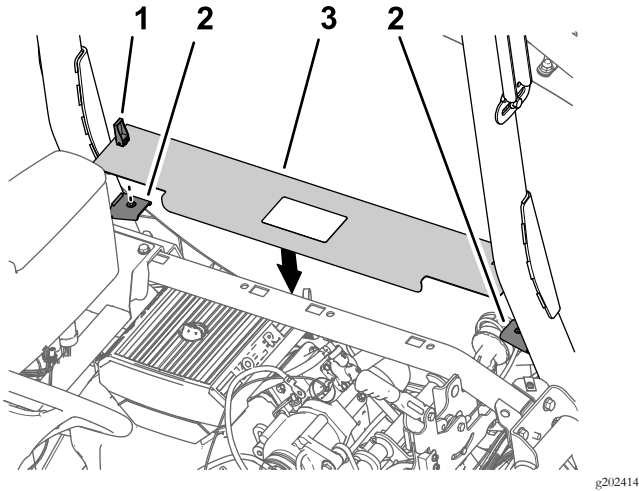

Figure 219
1. Align the latches of the engine access panel with the bushings in the panel-support brackets on the roll bar (Figure 219).
2. Assemble the panel onto the brackets (Figure 219).
3. Rotate the handles latches down to secure the panel to the brackets (Figure 219).